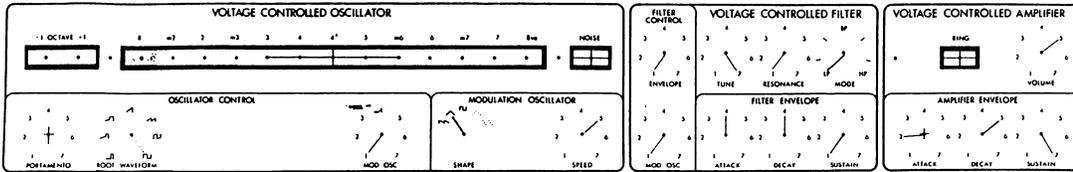
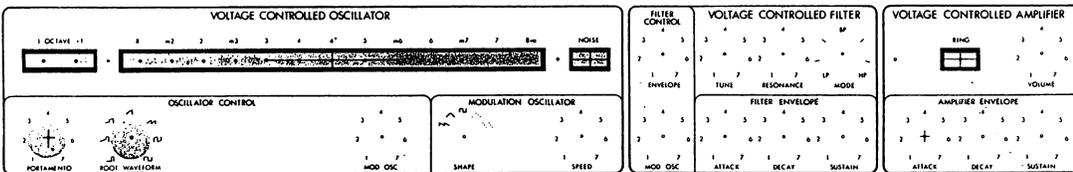

Fig. 1
Fig. 2 Source Controls
A. Set the controls on your SynKey as shown in figure 1. Note the controls shown as SOURCE CONTROLS in figure 2.
- When listening to the pulse with the synthesizer set as in fig. 1, you should hear a change in timbre with key depression. The pulse is being "width modulated" by the Filter Envelope to make it even brighter. More about that later. As you become more familiar with SynKey you will find that the ROOT WAVEFORM control will be very useful in developing particular timbres.